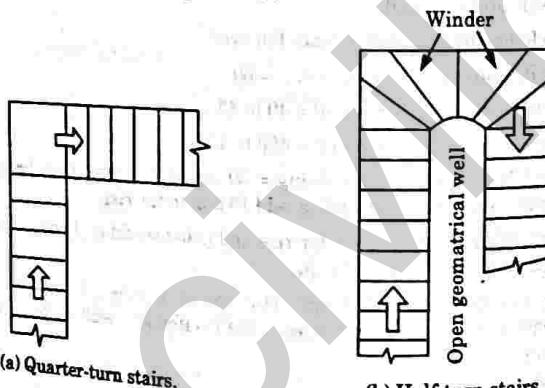

Fig. 3.14.2.
- A stair turning through one right angle is known as a quarter-turn stair. If a quarter-turn stair is branched into two flights at a landing, as shown in Fig. 3.14.2(a), it is known as a bifurcated stair.
- A stair turning through two right angles is known as a half-turn stair. A half-turn stair may be of dog-legged type or open newel type as shown in Fig. 3.14.2(b).